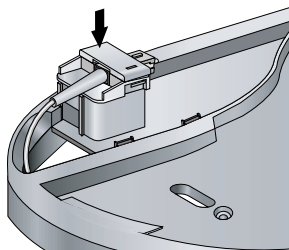

Figure 18. Securing the Cable in Position
14. Replace the cover on the post to secure the cable in position, as shown in Figure 18.